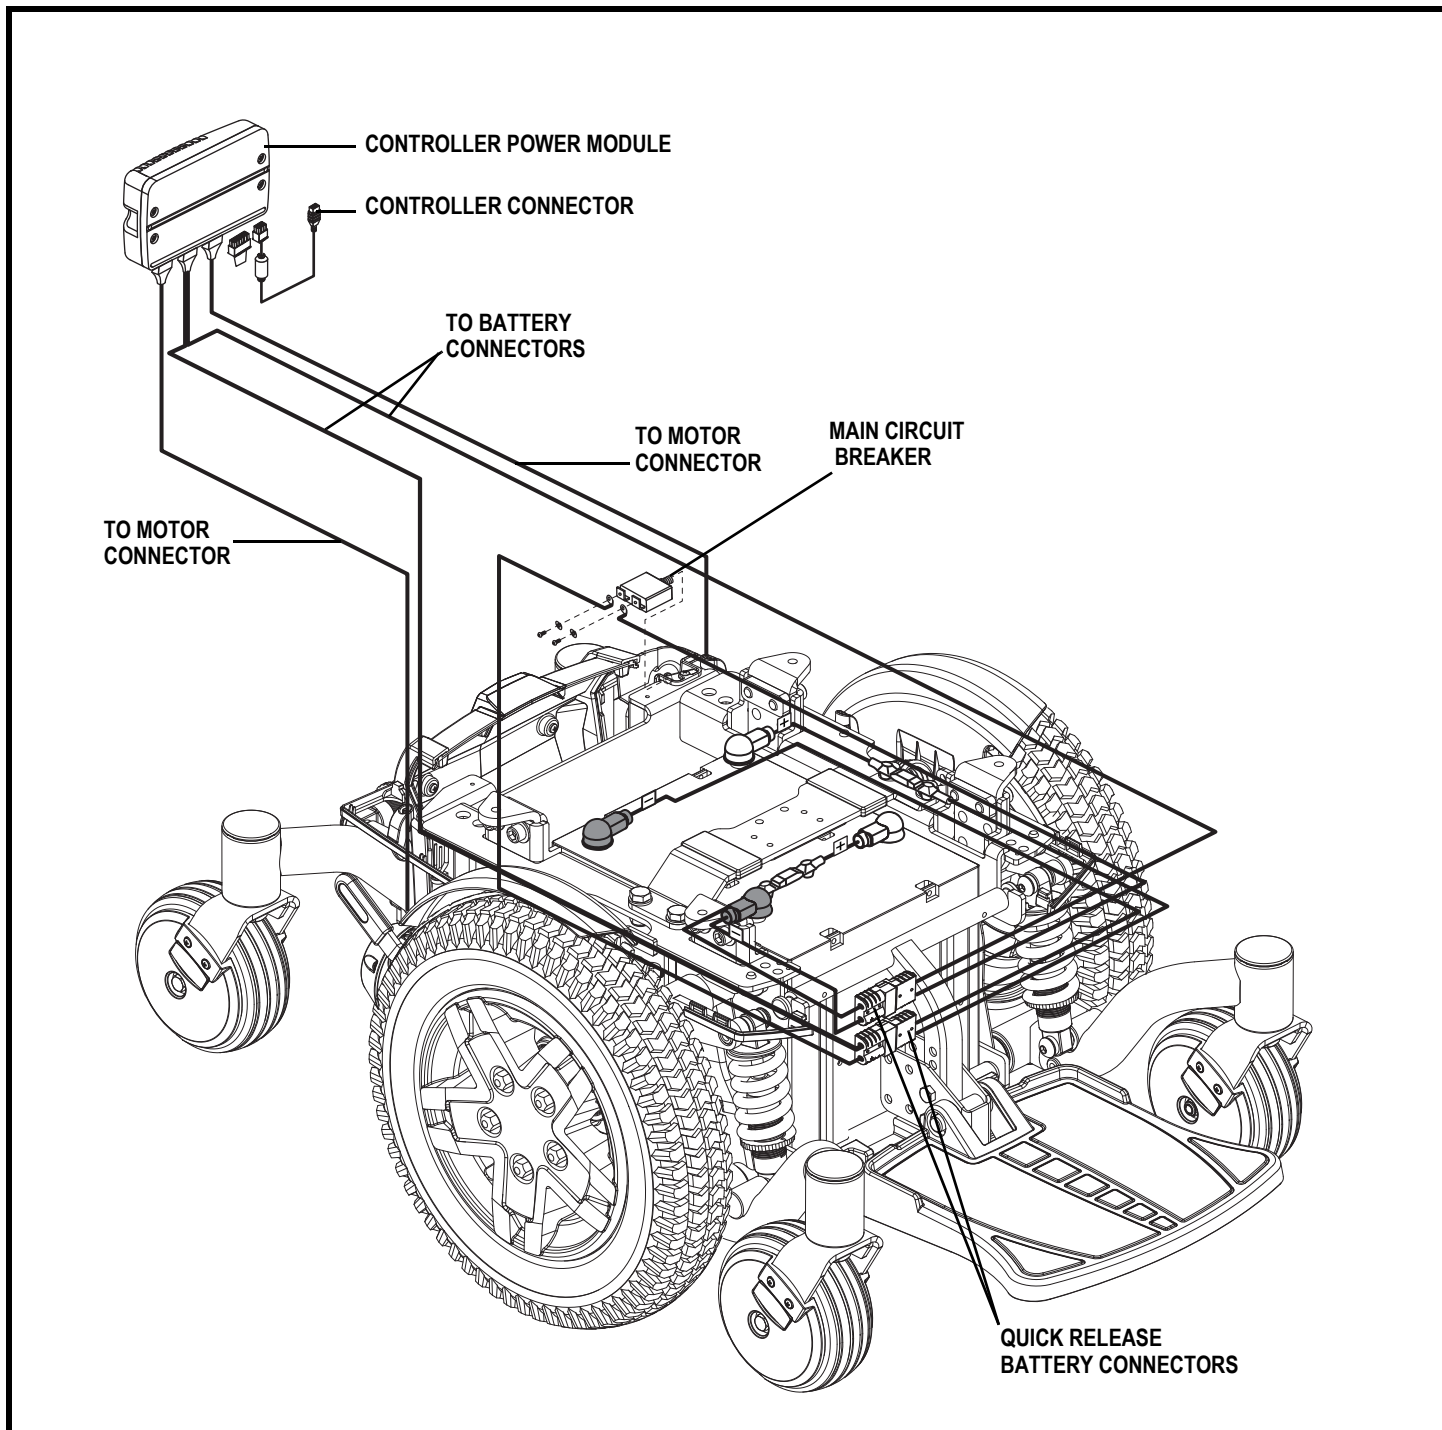

Figure 3. Jazy 600 ES Electrical Components
The electrical components consist of the controller assembly, the batteries, and the motors. The batteries, motors, and controller power module (if equipped) are located on the power base assembly. The controller is located on the seat assembly. Connectivity between the controller and the motors, batteries, and the battery charger is provided by one or more wiring harnesses. **See figure 3.**
5. Plug the controller connector into the rear of the power base. See figure 3.
4. Plug the controller connector into the power base. See figure 3.
3. Unplug the controller connector(s) from the power base. See figure 3.